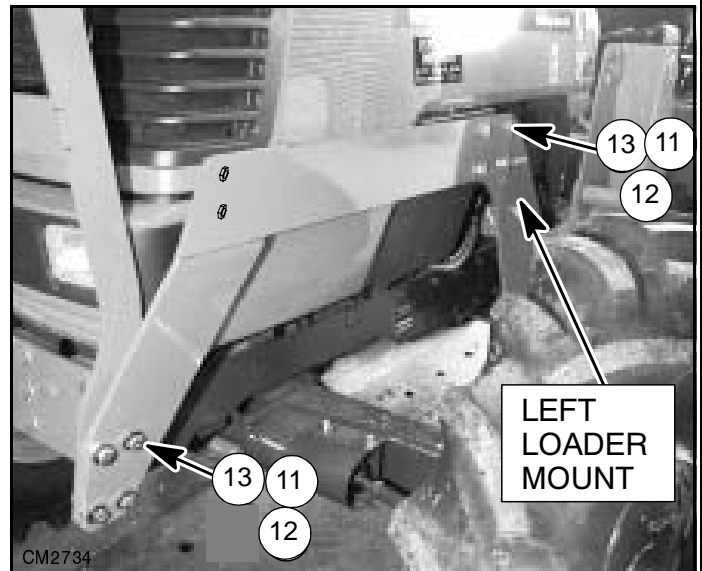

Figure 7 Side Rails Installed to Rear Mounts & Front Support
1. Install #59628 right side rail and #59631 left side rail to outside of rear mounts as shown in Figure 7. Secure with cap screws (13), hardened flat washers (11), and hex nuts (12).
2. Secure at front support with cap screws (13), flat washers (11), and hex nuts (12). Flat washers are installed over the slot as shown below.